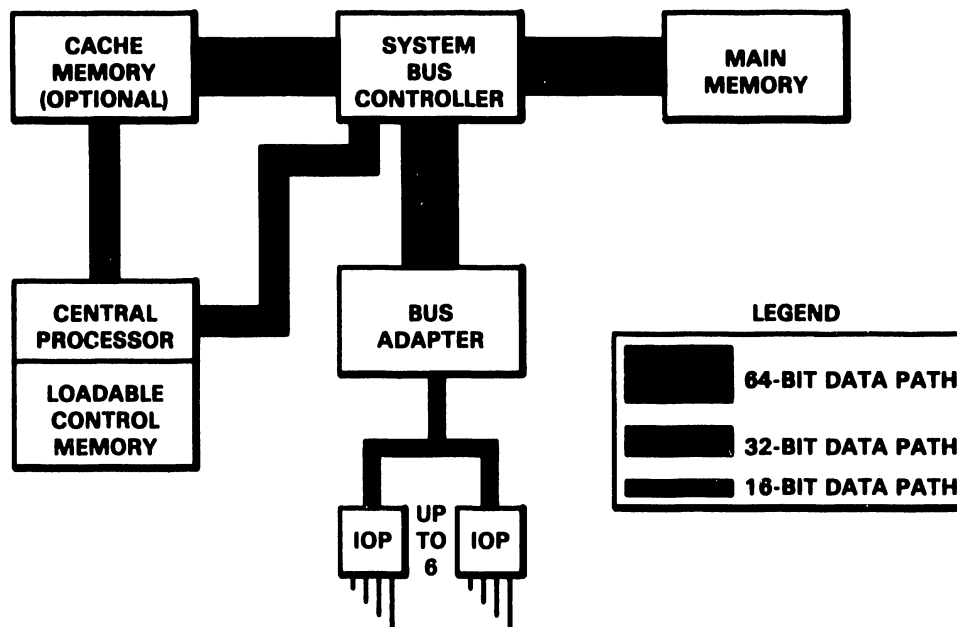

Figure 1-1. VS-85/85-H Central Processing Unit Architecture
Housed in a compact cabinet with the Main Memory (MM) and optional Input/Output Processors (IOPs), the CP4 central processor (CP) is the heart of the VS-85/85-H. (See figure 1-1.) It consists of an A Bus board and a B Bus board. The CP4 processor is a faster, more sophisticated version of the CP3 processor used in the VS-60/80. It supports the same instruction set as the CP3, with the exception of certain privileged instructions related to address translation.